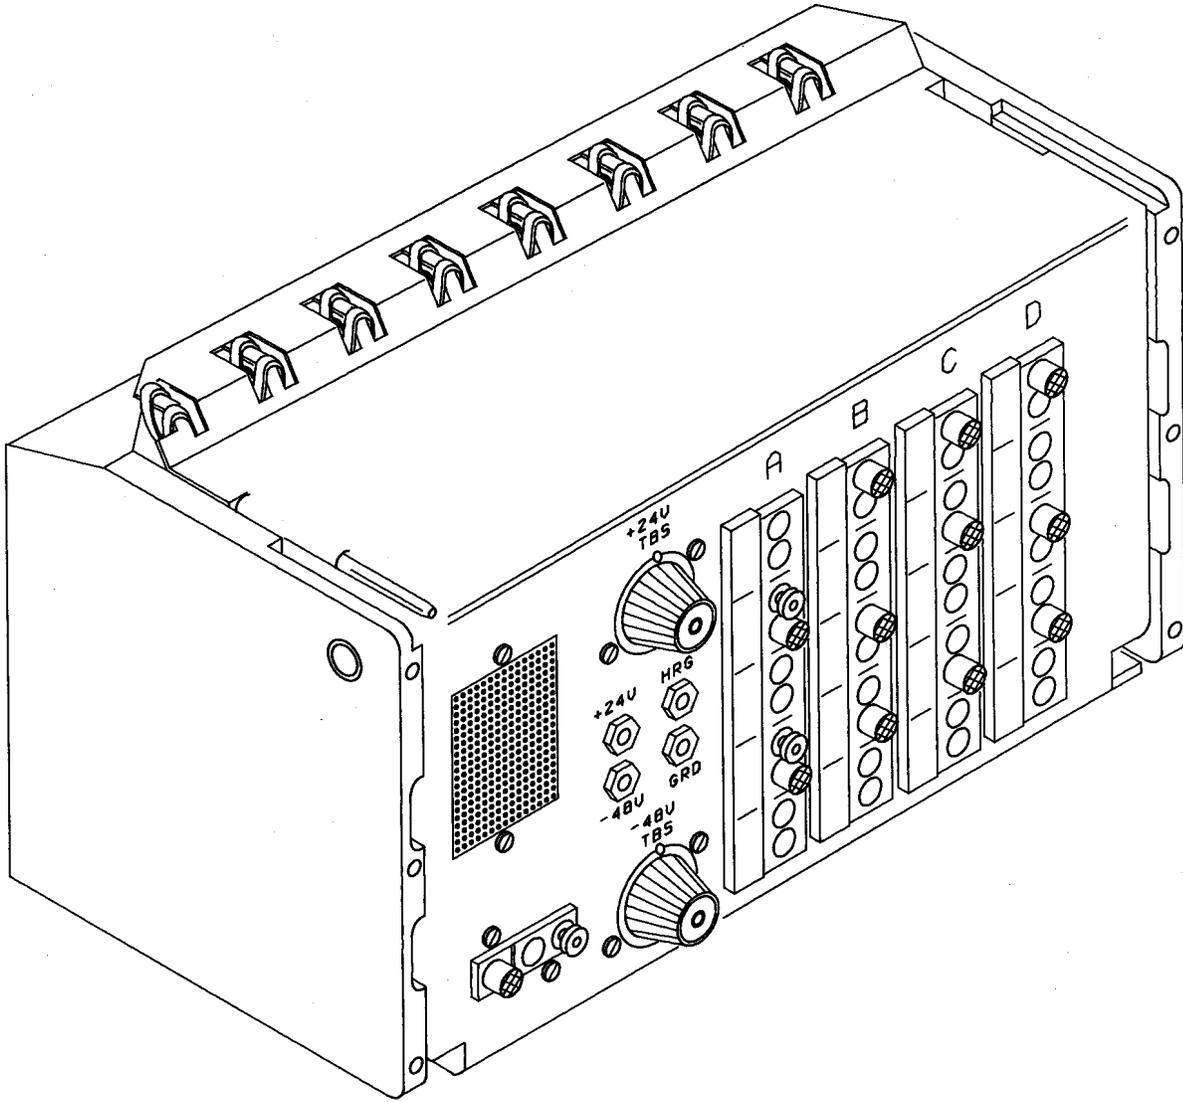

Fig. 10—ED-6C110-10 GRP. 25 Test/Talk Panel
10.03 The panel shown in Fig. 10 is equipped basically the same as the two panels described in the previous paragraph. However, it mounts on the rear of the COE module by means of KS-21316-L9 mounting bracket.
10.04 Figure 11 shows a panel equipped with only talk and test jack circuits. The panel is mounted on the rear of the COE module and is intended to be used with the panel in Fig. 10 for addi-